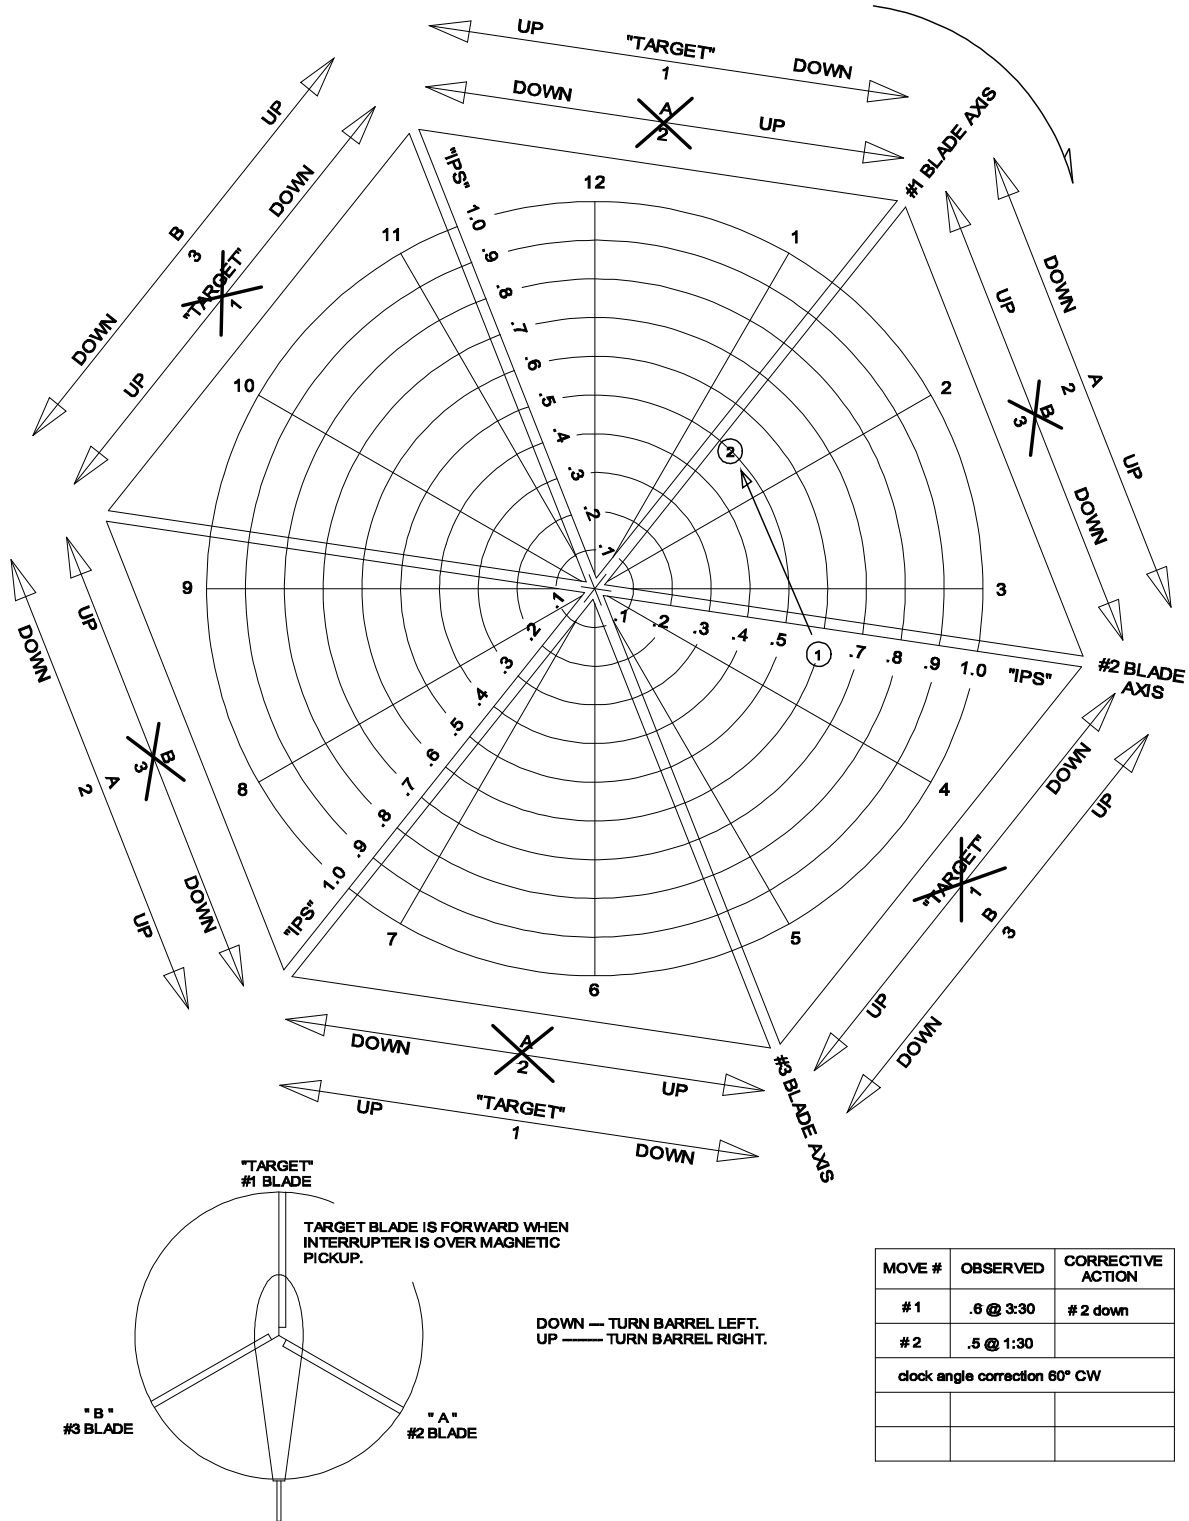

Figure 12-6.2. Main Rotor Clock Angle Correction Example
3. Observation of run #1 and run #2 plots indicates that the tracking response is following the #3 blade axis line. Therefore, the blade correction move lines must be shifted clockwise one flat (60°) (Figure 12-6.2). This is the Clock Angle Correction.